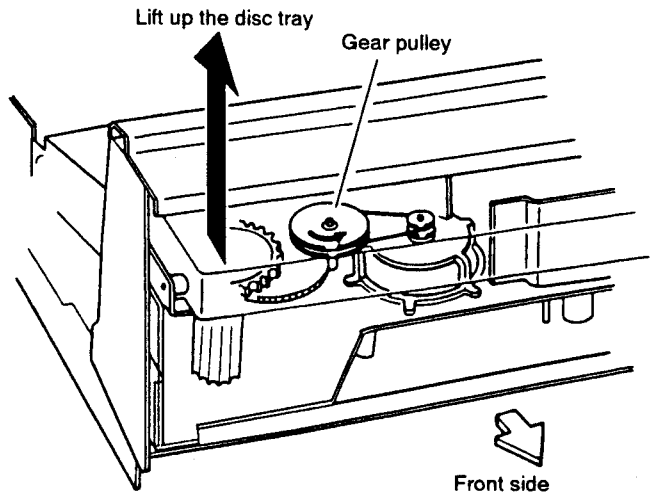

Fig. 3
- ④ Lift up the front side of the disc tray to enable the gear pulley to be turned by hand. (Fig.3)
- ⑤ Turn the gear pulley (Fig.3) counterclockwise by hand.
- ⑥ After the disc tray is lifted up and moved toward you, tighten two screws (B) which were removed in step 3.
- ⑦ Pull out the disc tray toward you by hand.